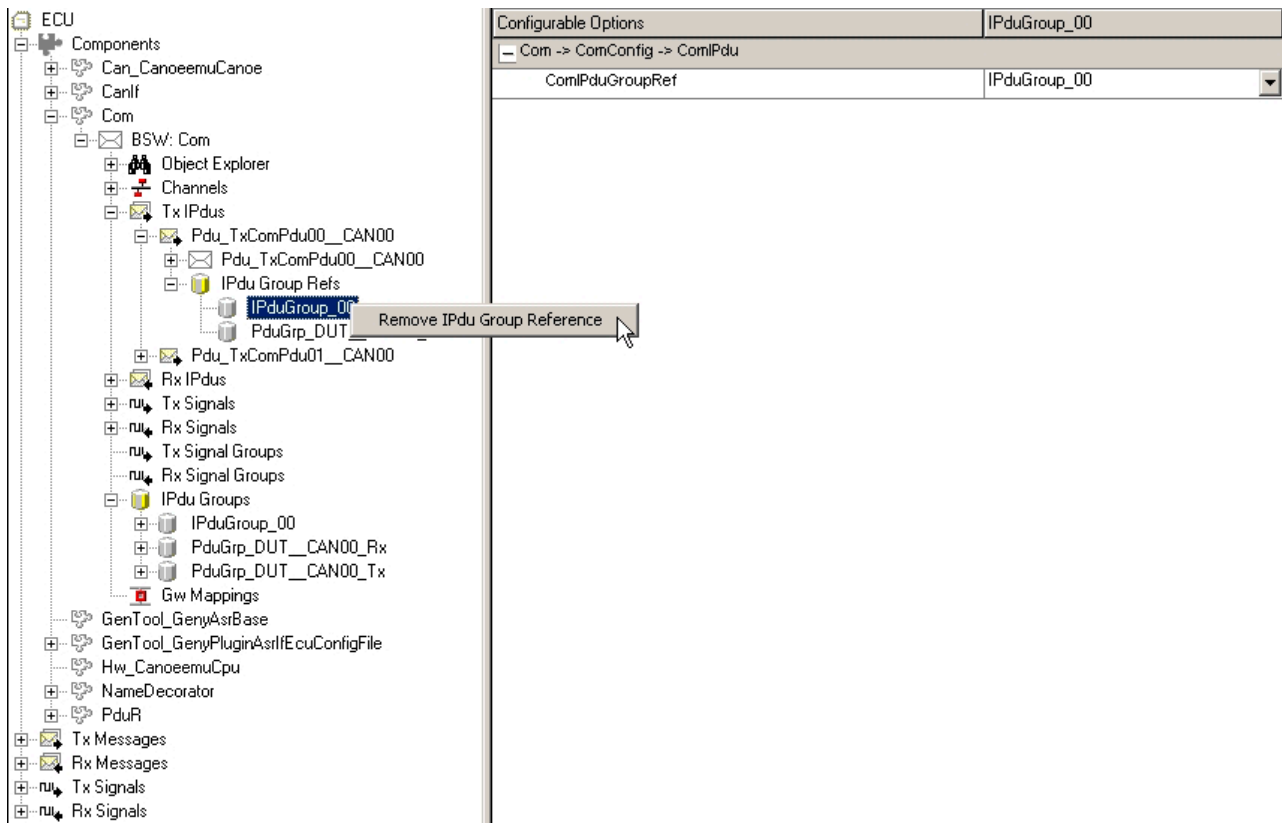

Figure 3-8 Removing an I-PDU group reference
- > To remove an assigned I-PDU from an I-PDU group, right-click on the I-PDU group reference object and select “Remove Ipdu Group Reference” as shown in Figure 3-8.